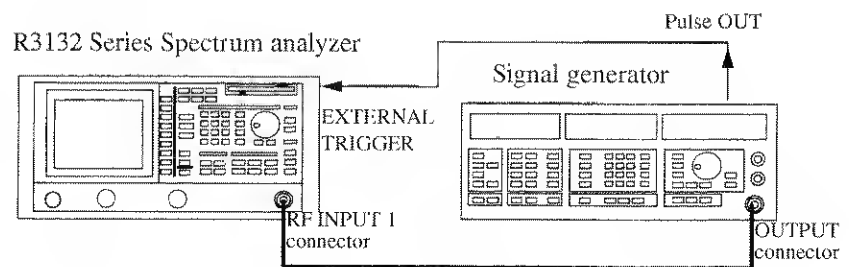

Figure 2-66 Setup for Measuring a Burst Signal
1. Connect the unit as shown in Figure 2-66.